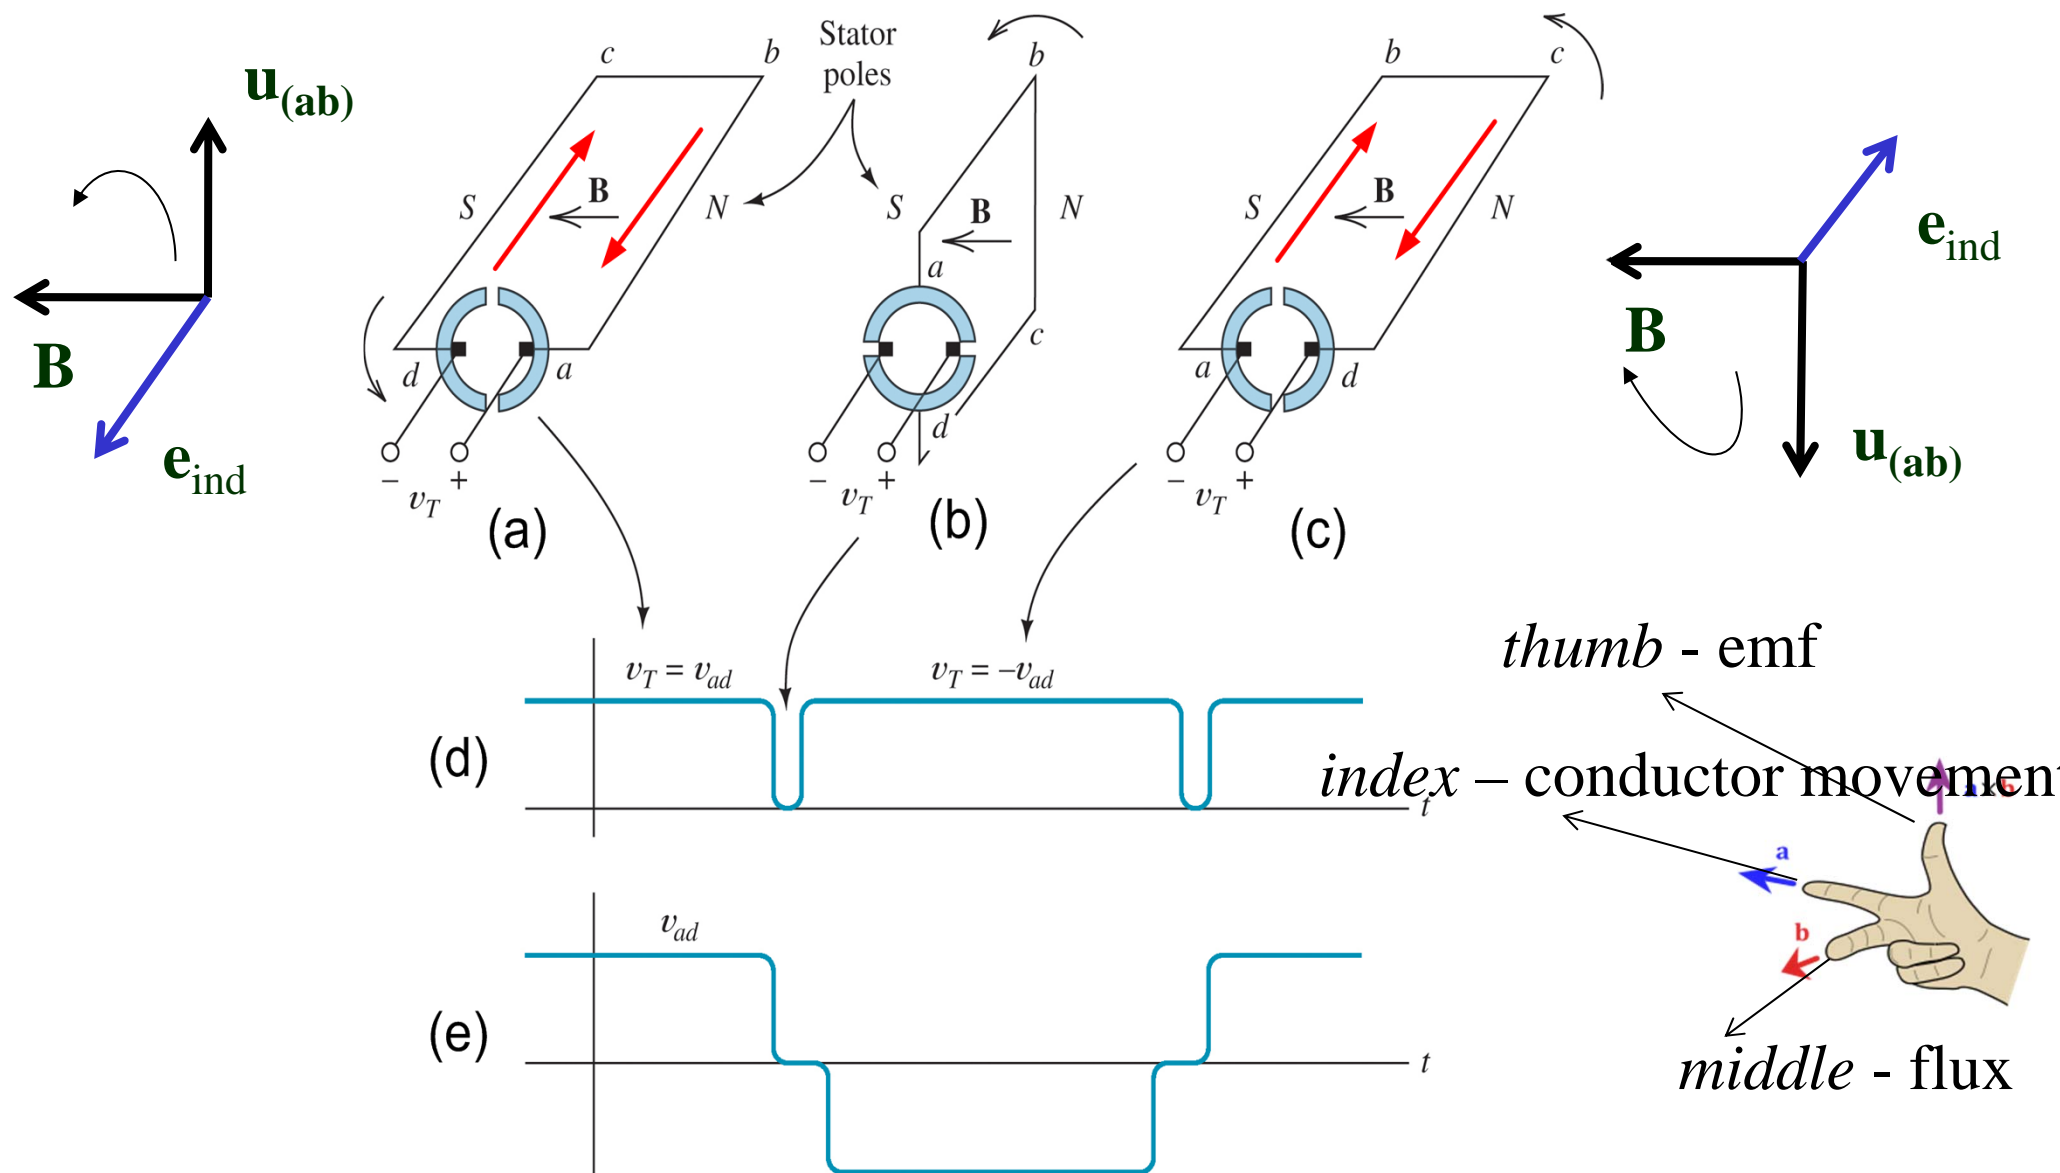

Fig. 5.11 Commutation for a single armature winding.
- The induced emf remains constant under the pole face as the conductor moves along, however, as the conductor moves out of the magnetic pole face the flux-lines cutting the conductor reduces and thereby the emf induced as shown in Fig. 5.11. As the conductor moves under the opposite pole a negative voltage is induced.
- A mechanical switch known as commutator reverses the connections to the conductor as they move between the poles so the polarity of the induced emf is seen from the external terminal remains the same i.e. we get a rectified dc voltage as shown in Fig. 5.11.